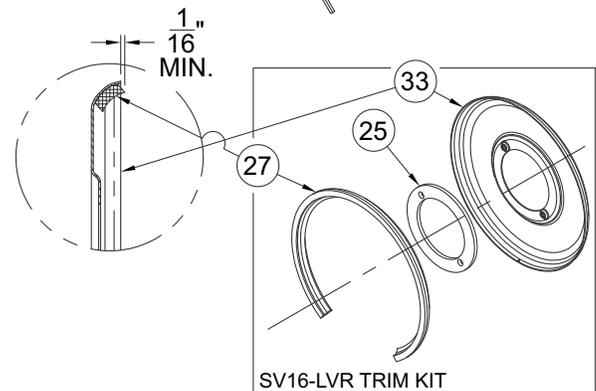

FIGURE 13
- A. Attach **escutcheon gasket 27** and **trim plate center gasket 25** onto back of **lever handle escutcheon 32** by removing adhesive protection film and attaching as shown **Figure 13**.